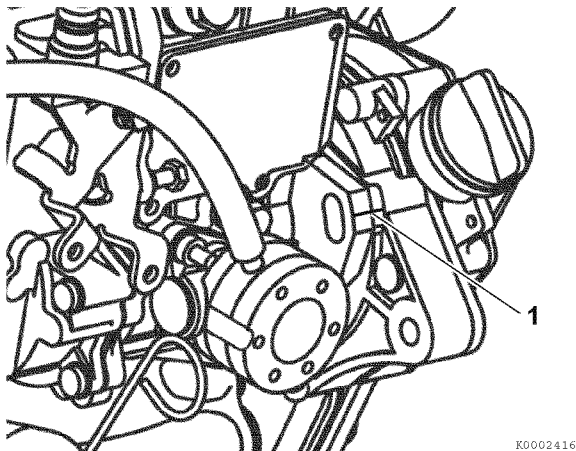

Figure 7-22
19. Locate the mark (1, **Figure 7-22**) stamped into the upper outside mounting boss of the fuel injection pump. Highlight this mark and make a corresponding mark on the gear case or front plate (3TNV74F, 3TNV80F).